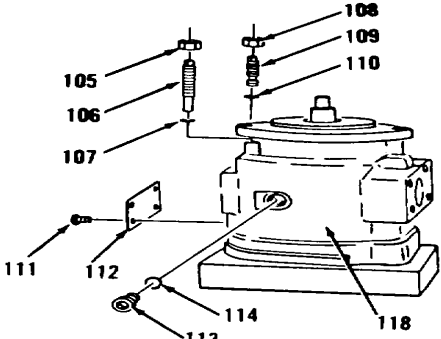
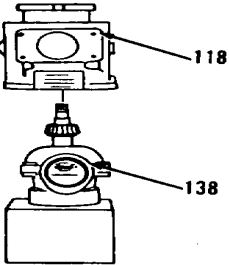

Figure 10-36.
Figure 10-37.
- 49. Remove nut (105), bolt (106), preformed packing (107), nut (108), bolts (109) and preformed packing (110, Figure 10-36). Discard preformed packings (107 and 110).
- 50. Remove four screws (111) and plate (112).
- 51. Remove two plugs (113) and preformed packings (114) from body (118). Discard preformed packings (114).
- 52. Separate body (118) from barrel (138, Figure 10-37).